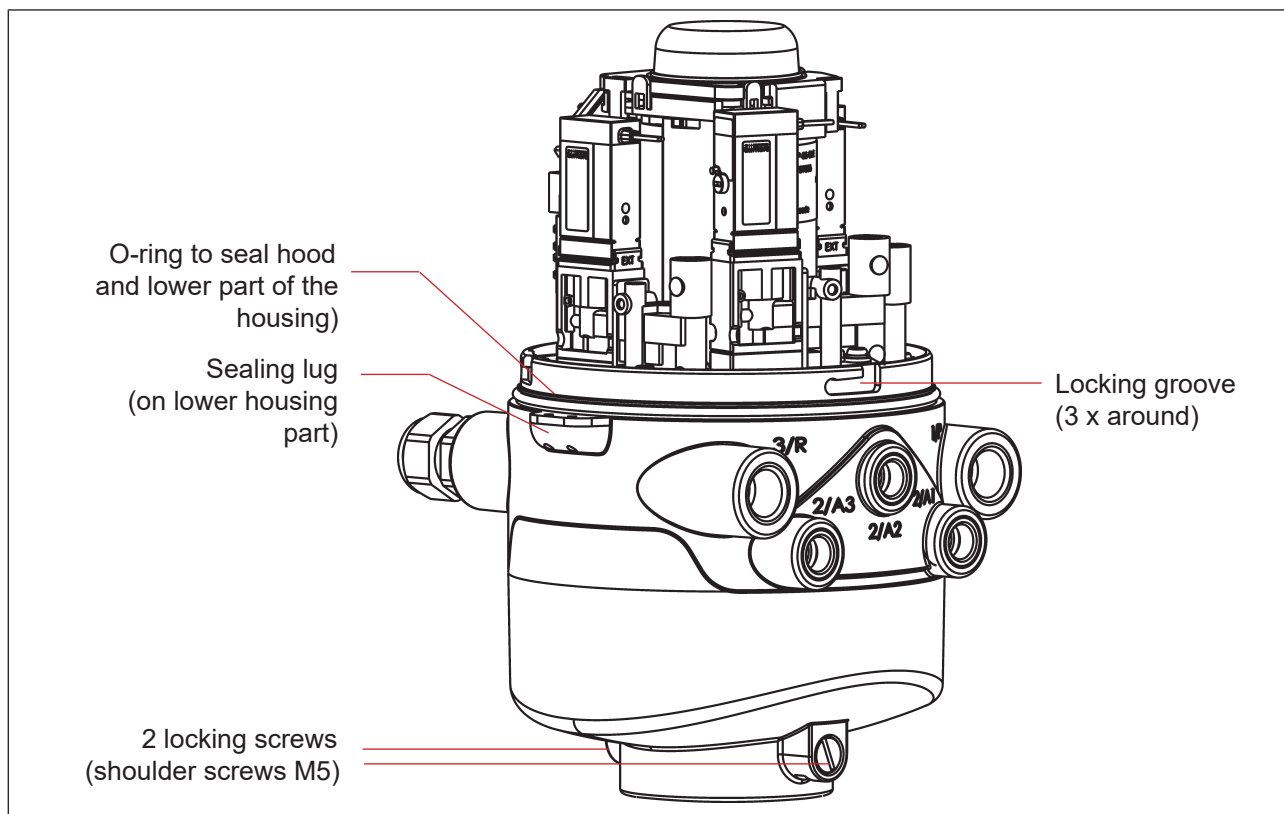

Fig. 16: Sealing and locking the housing
- Remove lead seal if the housing is secured at the sealing lug – see “Fig. 16”.
- Put the plastic hood on the lower part such that the inner "lugs" of the hood are positioned over the locking grooves and the external sealing lugs are positioned almost over each other. Press the hood completely over the O-ring of the lower part – see also "Fig. 16".